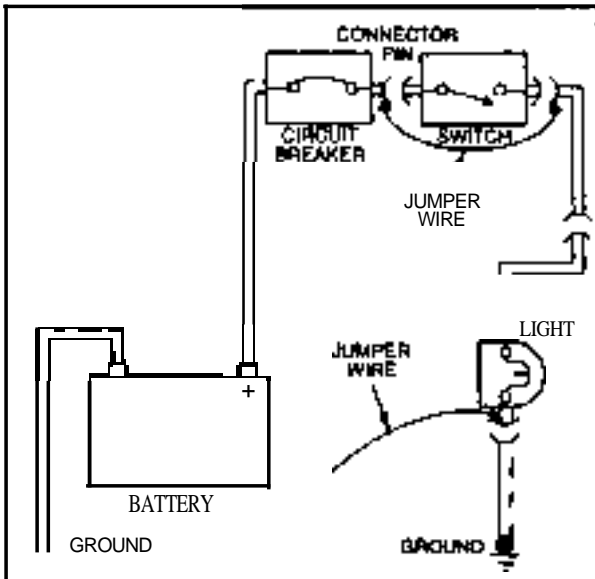

Figure 5.3-12 - Troubleshooting Using Jumper Wires
Jumper wires (Figure 5.3-12) allow "jumping" across a suspected open or break in a circuit.
- If the circuit (Figure 5.3-12) works properly with the jumper wire in place, but does not
In (Figure 5.3-12), if bypassing the switch with a jumper wire causes the light to illuminate, but closing the switch does not, it indicates the switch has failed. If, with the switch closed, the light does not illuminate, and "jumping" the switch doesn't cause the light to operate, but "jumping" the light to ground causes the light to operate, then there is an open in the ground circuit.